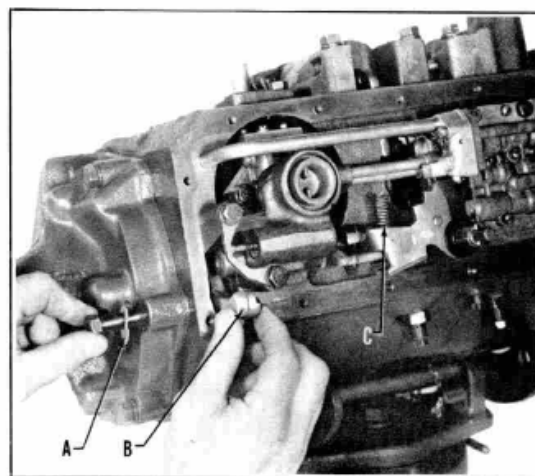

Figure 3
4. Remove parking brake pawl support bolt (A) from rear of case and position parking pawl (B) down in case as far as it will go, Figure 3. (Pawl cannot be removed at this time.)
8. Unhook the parking brake release spring (C) from the pin assembly, Figure 3.